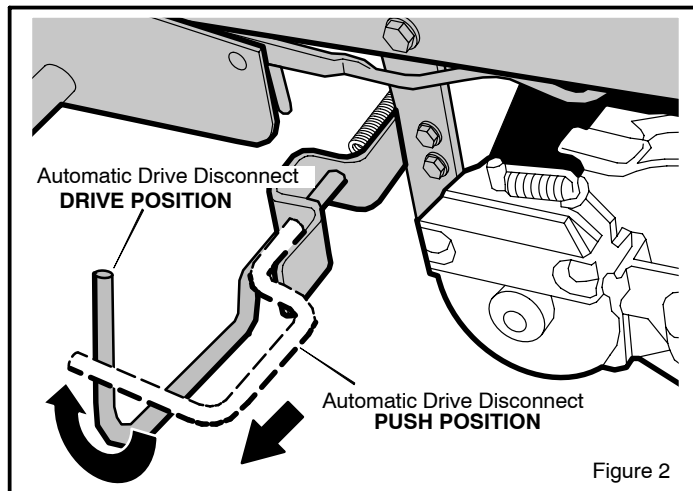

Figure 2
To allow the unit to be pushed, the unit was shipped with the **automatic drive disconnect** in the **PUSH POSITION**. Before operating, the **automatic drive disconnect** must be set in the **DRIVE POSITION**. (Figure 2)
4. To release the transmission and push the unit, pull and twist the **automatic drive disconnect**. Latch the **automatic drive disconnect** in the **PUSH** position (Figure 2). The transmission is now *released* and the unit can be pushed.